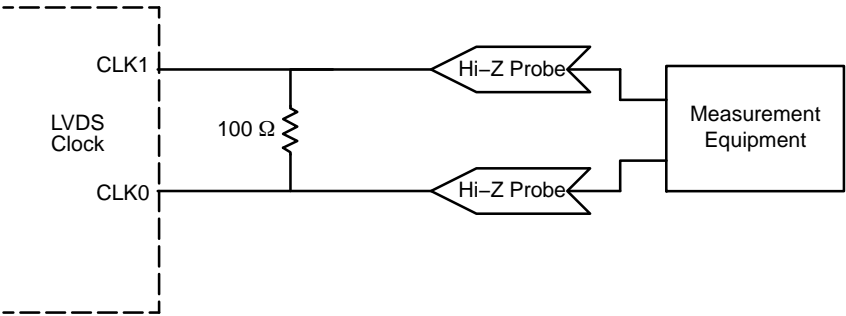

Figure 9. LVDS Parameter Measurement
- LVDS outputs require 100 Ω receiver termination resistor between differential pair. See Figure 9.